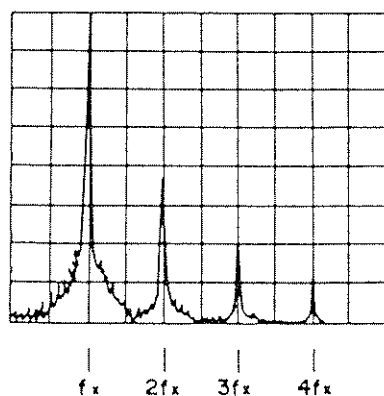

Fig. 6-7 Harmonics Spectrum Display
- (b) The fundamental wave spectrum of the unknown signal is adjusted with REFERENCE LEVEL as shown in Fig. 6-7. When the fundamental wave and harmonics cannot be displayed simultaneously, measure the fundamental wave and the harmonics separately.